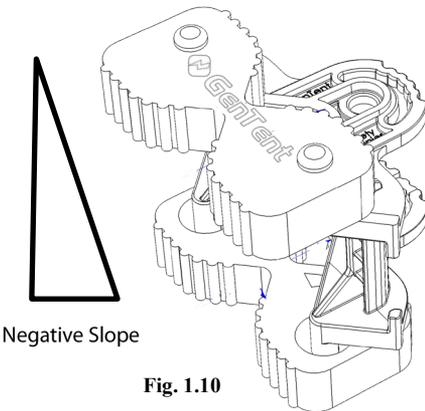

Fig. 1.10
- g. If you have a case that slopes out at the base (**Negative Slope**); install the top Gator Grommet™ with the “thick” (Fig 1.4) side and the bottom Gator Grommet™ with the “thin” (fig 1.4) side facing the case. (fig 1.10)